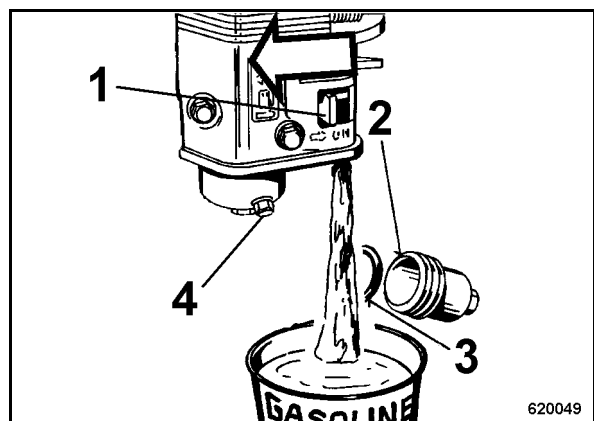

Fig. 77
- Open the fuel tap (1) (Fig. 77) in direction of arrow.
- Unscrew the fuel sludge filter (2), empty it and reassemble it leak tight with a new seal ring (3).
- Unscrew the carburettor drain screw (4), let all fuel run out of the carburettor and turn the screw tightly back in again.